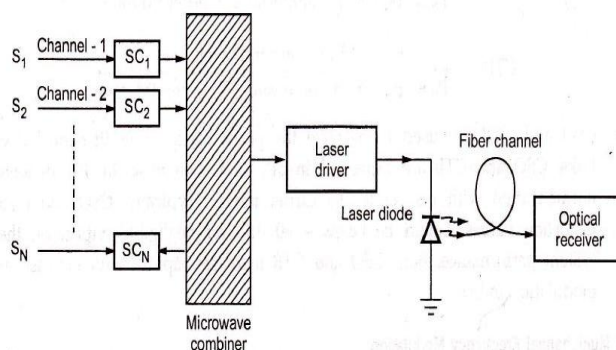

Fig. 6.1.5 Sub-carrier multiplexing
- The input can be analog or digital baseband signal. The input signals are modulated sub-carriers are then combined to give FDM signal. The FDM signals are then combined in microwave combiner. The combine signal is then modulates the intensity of semiconductor laser by adding it to bias current. Fig. 6.1.5 shows this arrangement